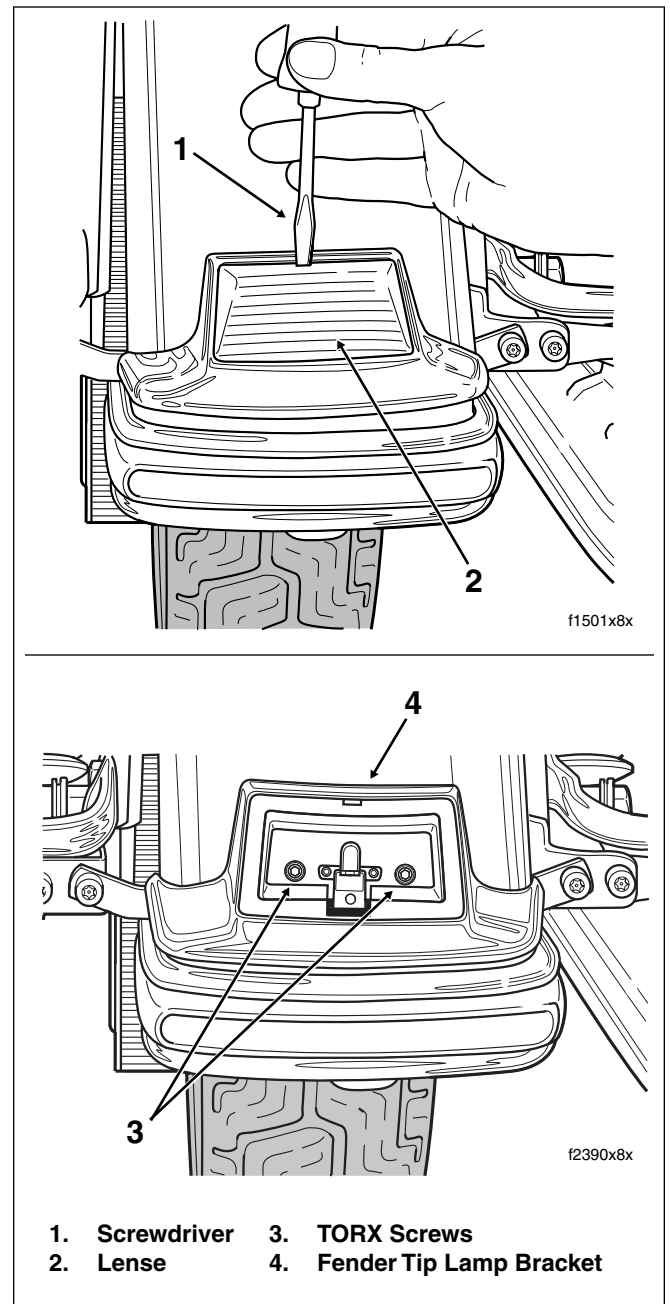

Figure 8-53. Remove Rear Fender Tip Lamp Lens and Bracket
6. Insert blade of small screwdriver into slot at top of fender tip lamp lens. Rotate end of screwdriver to unsnap lens from lamp bracket. See upper frame of Figure 8-53.
7. Holding nuts at inboard side of rear fender, remove two TORX screws to release fender tip lamp bracket. See lower frame of Figure 8-53.
5. Place fender tip lamp bracket into position aligning holes in bracket with those in fender. Slide TORX screws through bracket and fender holes and install nuts. See lower frame of Figure 8-53.